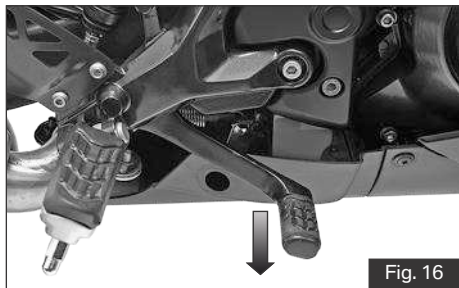

Fig. 16
**Rear Brake Pedal (ref. Fig. 16)**